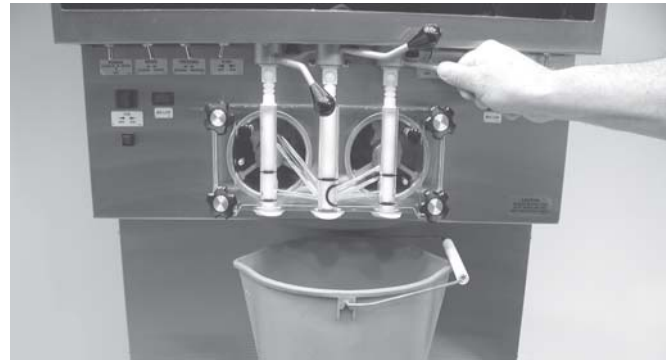

Figure 20. Draining Sanitizer
- G. After five minutes, open spigot to expel sanitizing solution. Drain all solution from freezer using all three spigots (See Figure 20).